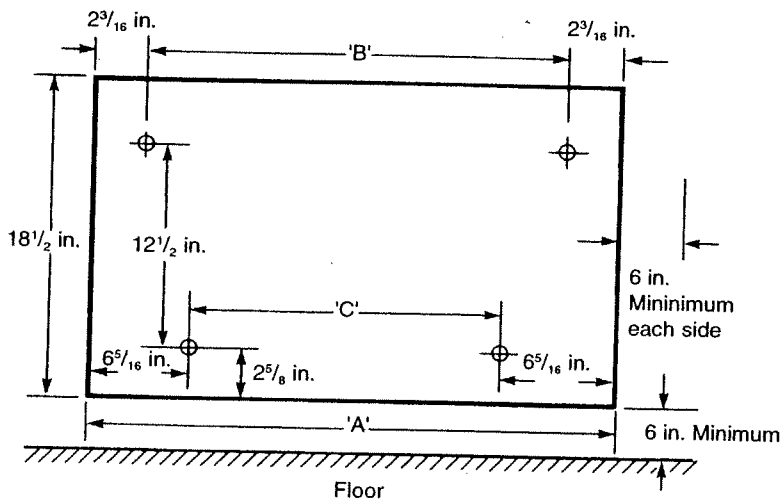

Fig. 2
1. Cut the mounting template from the rear of the cardboard carton (where provided), or refer to Fig. 2 for the position of the mounting holes.